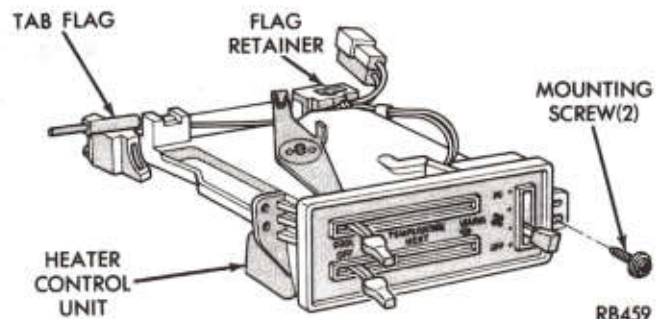

Fig. 3—Heater Control
- (1) Remove faceplate (see "Faceplate Removal").
- (2) Remove two (2) attaching screws (Fig. 3).
- (3) Pull control outward.
- (4) Disconnect illumination light and switch wiring.
- (5) Remove cables.
- (6) Remove control unit.